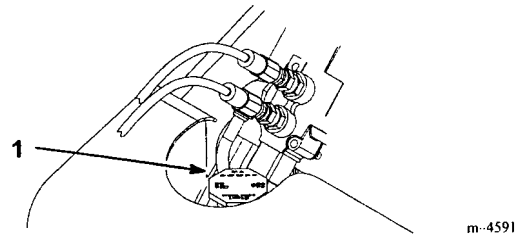

Figure 8
3. Remove the radiator filler cap and check the coolant level (Fig. 8). The coolant should be up to filler neck.